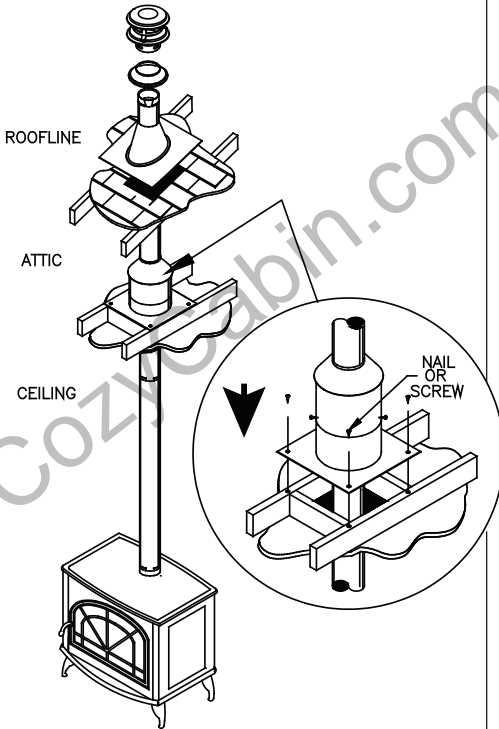

Figure 6
PelletVent Pro does not require additional sealant to be used at pipe joints, but in certain circumstances sealant may be used if desired. Seal the inner liner overlap at the male end of pipe for best results (*Figure 6*). Note: 500°F RTV silicone sealant is required on the following component connections:
G. When the PelletVent Pro enters the attic, install an Attic Insulation Shield around the vent (**Figure 6**). This will prevent insulation and debris from collecting near the vent pipe. Use (4) nails or wood screws to secure the base of the Attic Insulation Shield to the framed opening. Adjust the height of the Attic Insulation Shield by sliding the top cylindrical shield over the one from the base. Ensure that the top of the Shield is above the level of building insulation. Secure the Shield in place with at least two (2) sheet metal screws through the side of the cylindrical shield. Attach collar around pipe, then lower to the top of the Attic Insulation shield.